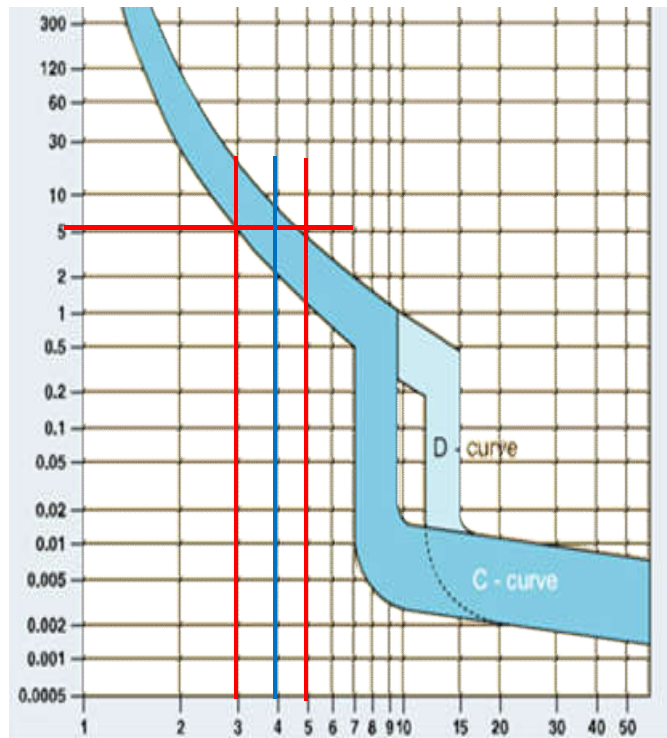

figure 3 - www.clipsal.com
2. Determine from manufactures data (figure 3) the current I_a